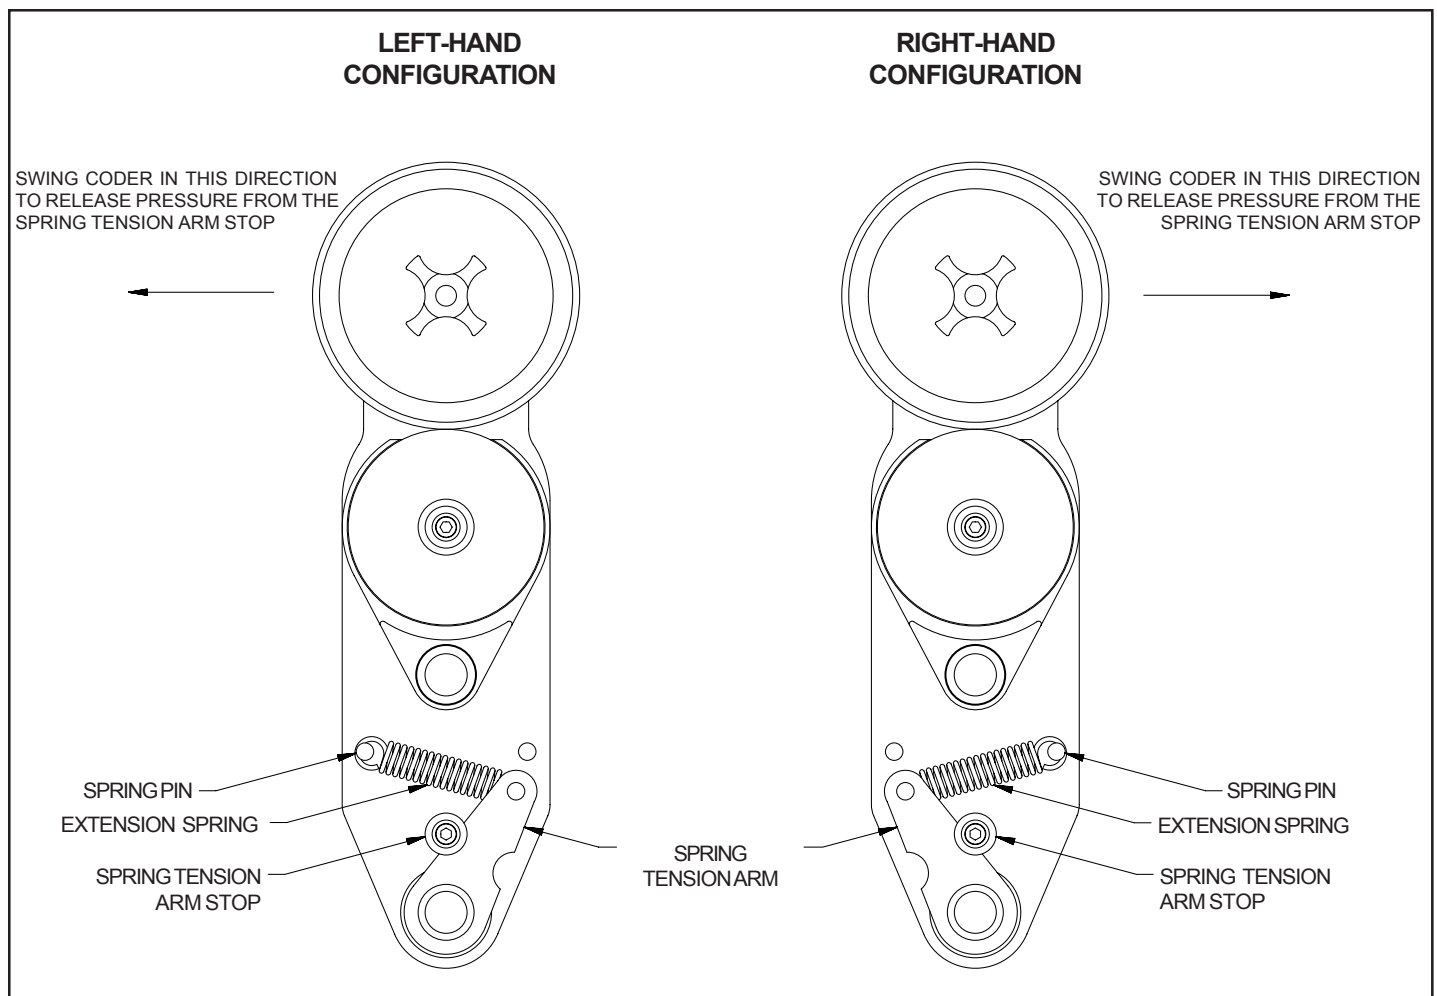

FIGURE 46
- 2 - Swing coder in the direction shown in Figure 46 to move the Spring Tension Arm Stop away from the Spring Tension Arm. Remove the socket head screw and the Spring Tension Arm Stop.